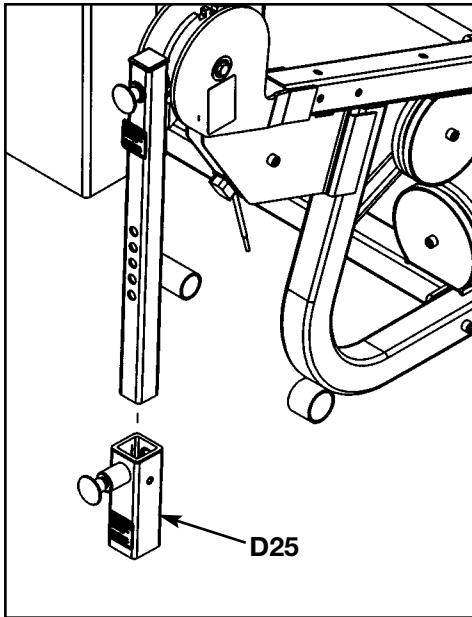

Figure 12A
**8. Install adjuster** (see steps 8A - 8D and Figures 12A - 12C).
- A.** Locate adjuster (#D25) and slide it onto the leg post as shown in Figure 12A.